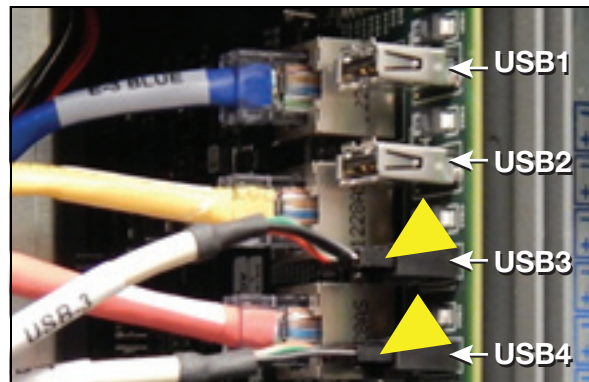

Figure 8. Remove USB Module Cables from CPU Board
- Figure 8. Remove USB Module Cables from CPU Board 7
8. Remove the two USB module cables from the CPU board USB connectors USB3 and USB4 (see Figure 8).
5. Reconnect the two USB module cables to USB connectors USB3 and USB4 (ref. Figure 8).